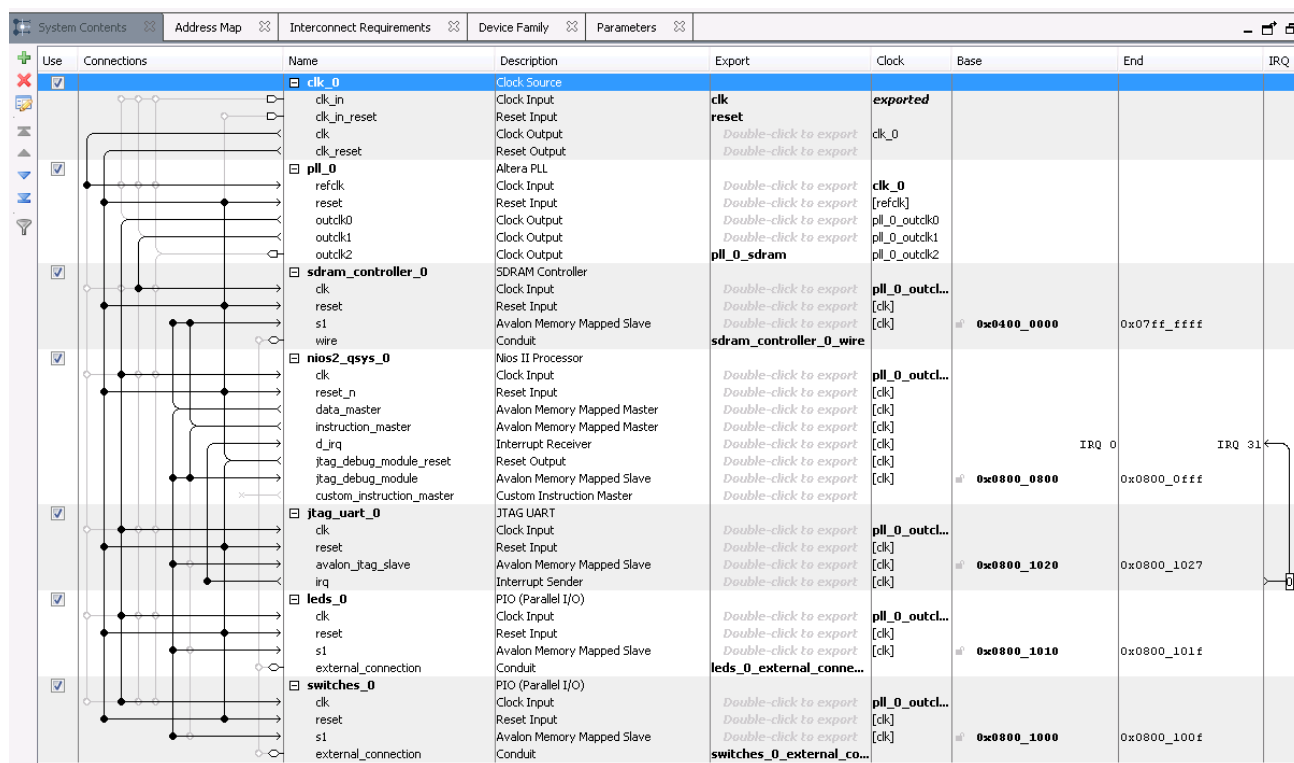

Figure 8-3. Adding LEDs and Switches to the System
13. Connect the system as shown in Figure 8-3 below: